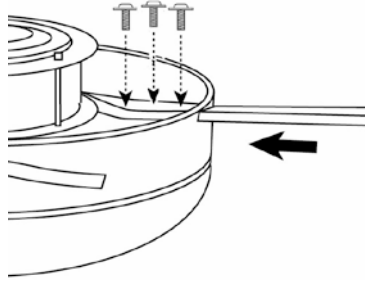

Figure 12 – Installing the Blades
1. Insert the fan blades into the slot and secure using 3 blade screws and washers provided as shown in Figure 12.